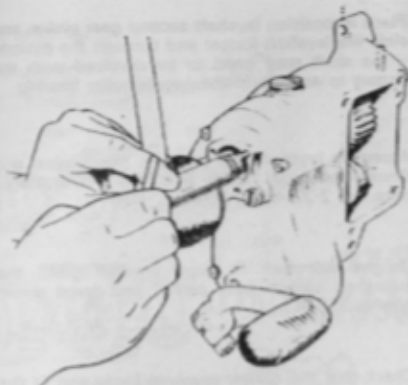

Fig. 37 Assembling Spiralox mainshaft circlip with service tool 0710069.
- 4 Fit the Spiralex circlip to the mainshaft. When fitting a circlip this must have the correct part number and be wound left hand. Unscrew the handle and sleeve from the body of the tool (see below), offer the circlip over the tapered end of the body and then reassemble the tool. Hold the recessed end of the body against the mainshaft end, pushing with the tool sleeve, slide the circlip over tool body and onto the mainshaft until it drops properly into position in the circlip groove see Fig. 37. The circlip should be checked finally to ensure that it has entered the groove through 360°.
- 14 Fit the Spiralox circlip using service tool 0710069. It may be necessary to apply pressure to the clutch end of the mainshaft by pressing the clutch spring plate through the clutch inspection window whilst the circlip is located. When fitting a circlip this must have the correct part number. Unscrew the handle and sleeve from the body of the tool, offer the circlip over the tapered end of the body and then reassemble the tool. Hold the recessed end of the body against the mainshaft and, pushing with the tool sleeve, slide the circlip over tool body onto the mainshaft until it drops properly into position in the circlip groove. (See Fig. 37.) The circlip should be checked finally to ensure that it has entered the groove through 360°.